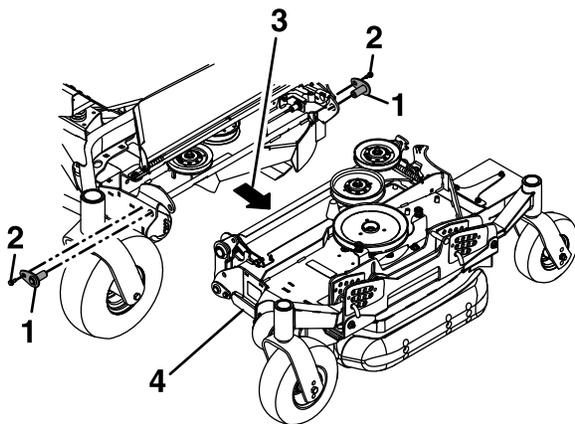

**Figure 86**
- 14. Remove the flanged bushings from the upper pivot points and clean the bore (Figure 86).
- 18. Remove and retain the lower pivot point bolts (Figure 83 and Figure 86).